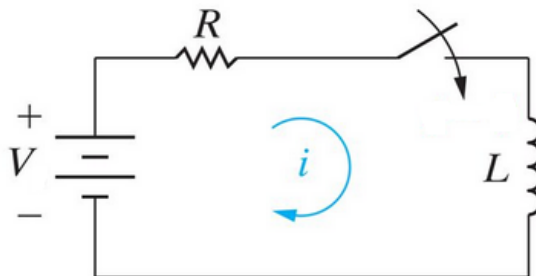

Figure 5(c) Linear system
- c) Consider the system as shown in **Figure 5(c)**, where $V(t)$ is the input voltage, and $i(t)$ is the output current. Determine the response $i(t)$ of the system when $V(t)$ is a unit-step input.